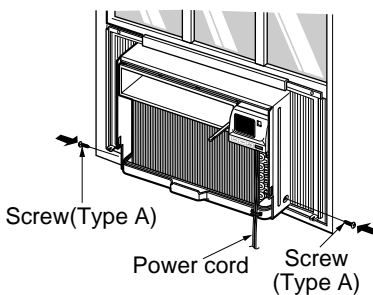

Fig. 7
- 10 Slide the unit into the cabinet. (See Fig. 7)